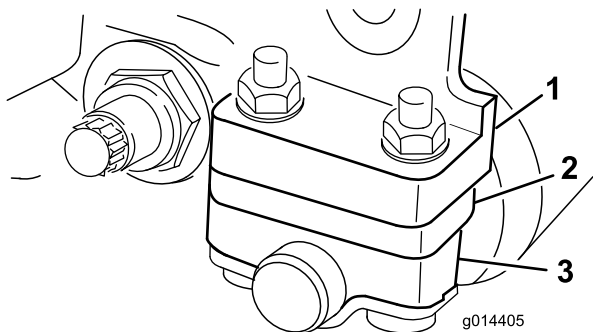

Figure 8
1. Adjust the rear roller brackets to the desired height-of-cut range by positioning the required amount of spacers below the sideplate-mounting flange (Figure 8) per the Height-of-Cut and Bedknife Selection Charts (page 10).